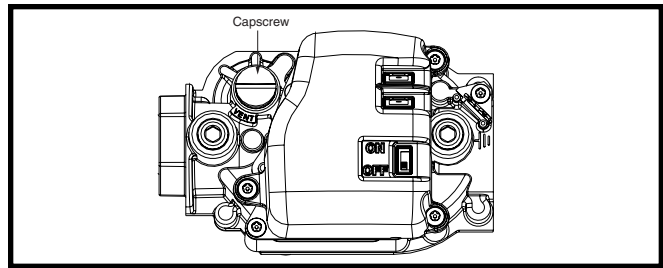

Figure 21. Regulator Capscrew
- b.) Remove the regulator capscrew (Figure 21) from the INLET side of the regulator.